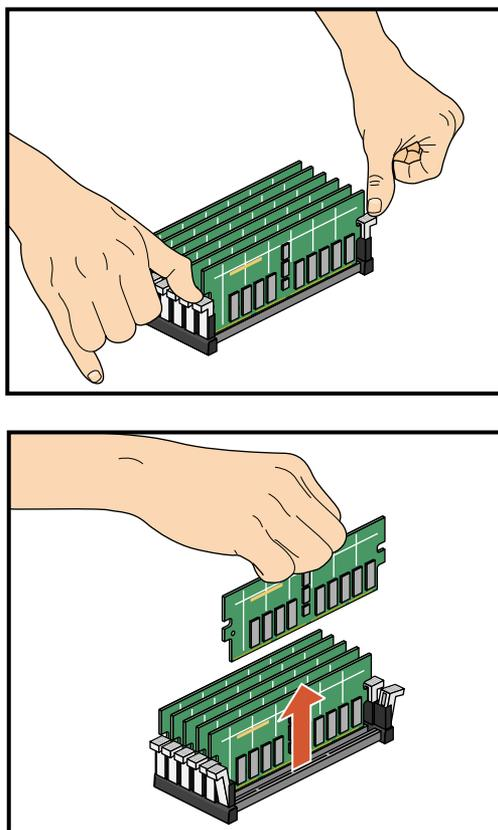

Figure 7-28 Removing a DIMM
6. Remove the DIMM, as follows (see Figure 7-28):